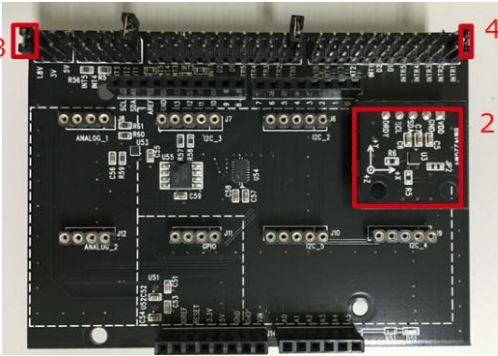

Figure 3. Connection between BM1422AGMV-EVK-001 and the SensorShield
2. Connect BM1422AGMV-EVK-001 to the socket of I2C\_1 on the SensorShield (Figure 3)
3. Set Voltage of the SensorShield to 1.8V or 3.0V (Figure 3)
4. Set Interrupt of the SensorShield to INTR1 (Figure 3)